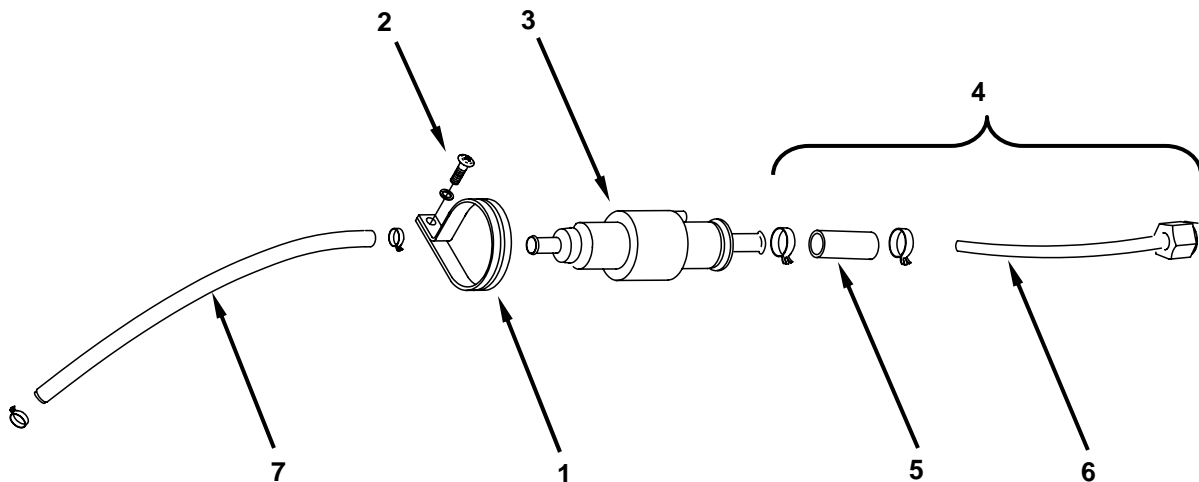

Figure 3. Replace the Fuel Pump and Fuel Pump Hoses – Disassemble Hoses.
8. Remove the fuel pump bracket (**Figure 3, Item 1**) and screw (**Figure 3, Item 2**) from the fuel pump (**Figure 3, Item 3**) and set aside.
9. Squeeze the hose clamp on the outlet hose (**Figure 3, Item 4**) of the fuel pump (**Figure 3, Item 3**) and pull the outlet hose off of the barbed fitting on the fuel pump. Drain any fuel onto a petroleum absorbent mat or tray.
10. Use pliers to release the hose clamp at the connection of the black hose (**Figure 3, Item 5**) and the clear tube (**Figure 3, Item 6**) on the outlet hose (**Figure 3, Item 4**), and separate the two hoses.
11. While working on petroleum absorbent material, squeeze the hose clamp and remove the fuel line (**Figure 3, Item 7**) leading to the inlet end of the fuel pump (**Figure 3, Item 3**).
13. Install the replacement fuel line (**Figure 3, Item 7**) to the inlet end of the fuel pump (**Figure 3, Item 3**). Ensure the hose is secure on the barbed fitting.
14. Assemble the outlet hose (**Figure 3, Item 4**) by inserting the clear tubing (**Figure 3, Item 6**) into the black hose (**Figure 3, Item 5**) approximately $\frac{1}{2}$ inch (13 mm), and retain in place with a hose clamp.
15. Install the outlet hose (**Figure 3, Item 4**) at the outlet end of the fuel pump (**Figure 3, Item 3**). Ensure the hose is black hose is secure on the barbed fitting.
16. Slide the fuel pump bracket (**Figure 3, Item 1**) over the fuel pump.